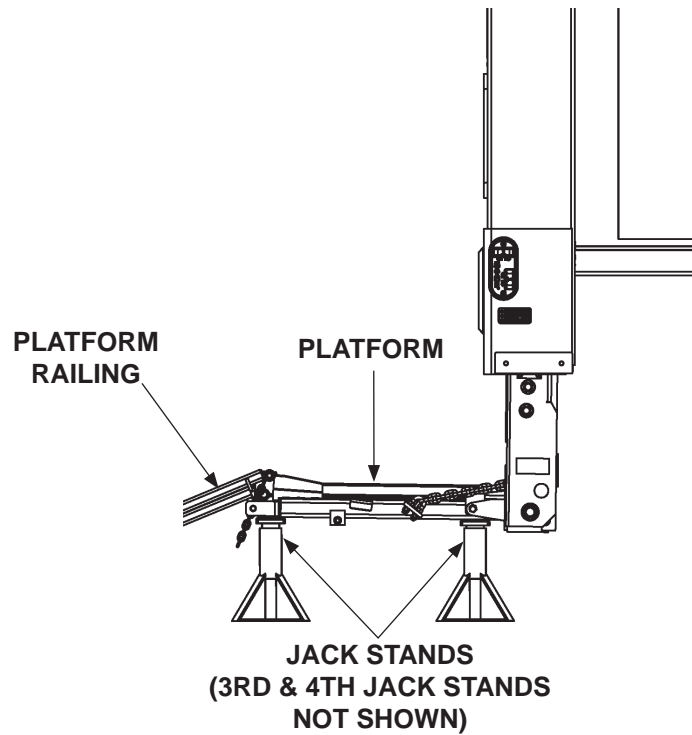

FIG. 27-1
3. Raise the platform (**UP**) slightly and place 2 more jack stands near the inboard edge (**FIG. 27-1**).